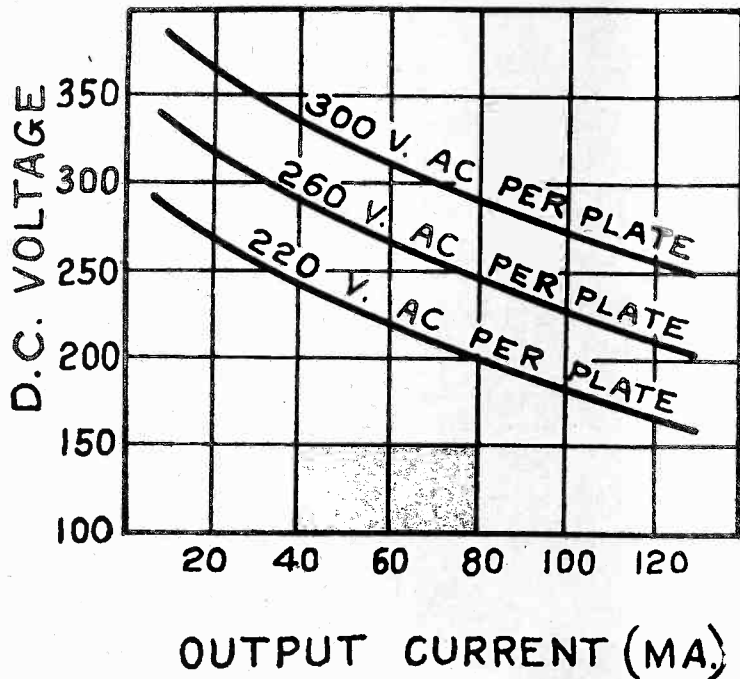

FIG. 1
The receiver shown in Fig. 1 affords ample volume for the home, and if the last stage should be overloaded, due to some special circumstance, like proximity to a powerful broadcaster, the volume control should be used to reduce the signal level at the receiver input, for the remaining volume will be more than ample.
The resistance of the tube does not remain constant but depends on the voltage swing and on the current drain. For large currents the resistance is less than for small currents, and therefore it is to be expected that the regulation is a little better for high currents. This is borne out by experimental regulation curves, as shown in Fig. 1. These curves include the effect of the resistance of the power transformer as well as that of the tube, but the resistance of the transformer is constant, so that the bending of the curves is due to the lowering of the resistance of the tube. A constant resistance would give straight line regulation curves.
Suppose it is required to design a B supply that will deliver 80 milliamperes and maintain a DC voltage of 300 volts across the voltage divider. What should the AC voltage per plate be? Referring to the regulation curves in Fig. 1 we note that when the AC voltage per plate of the rectifier tube (280) is 300 r.m.s., and the DC voltage across the first condenser is about 290 volts when the current drain is 80 milliamperes. Obviously 300 volts per plate are not enough, especially as there will be some additional voltage drop in the filter chokes.
In taking a voltage regulation curve the rheostat Rh2 should be readjusted until AC2 indicates a suitable value, say 600 volts. Keep the voltage at this value by continued readjustment. Then the output resistance should be varied so as to obtain various current drains. The readings on V1 corresponding to the readings on V2 should be recorded and entered in a regulation curve such as the top one in Fig. 1. The resulting curve gives the regulation of the tube alone at an AC voltage of 300 volts per plate.
When this curve has been obtained, rheostat Rh2 should be readjusted until AC2 reads some other desired value, say 500 volts, and the process repeated. The resulting regulation curve is that for the tube alone at 250 volts AC per plate. Several such curves should be taken on the same tube, varying the current drain from about 10 milliamperes up to 125, or up to the safe limit of the tube in question. The curves should be taken at equal AC voltage differences to make interpolation easy when the curves are to be used. In the curves in Fig. 1 the voltage difference is 40 volts. This is a convenient value because it is easy to divide the difference so as to get 10-volt differences.